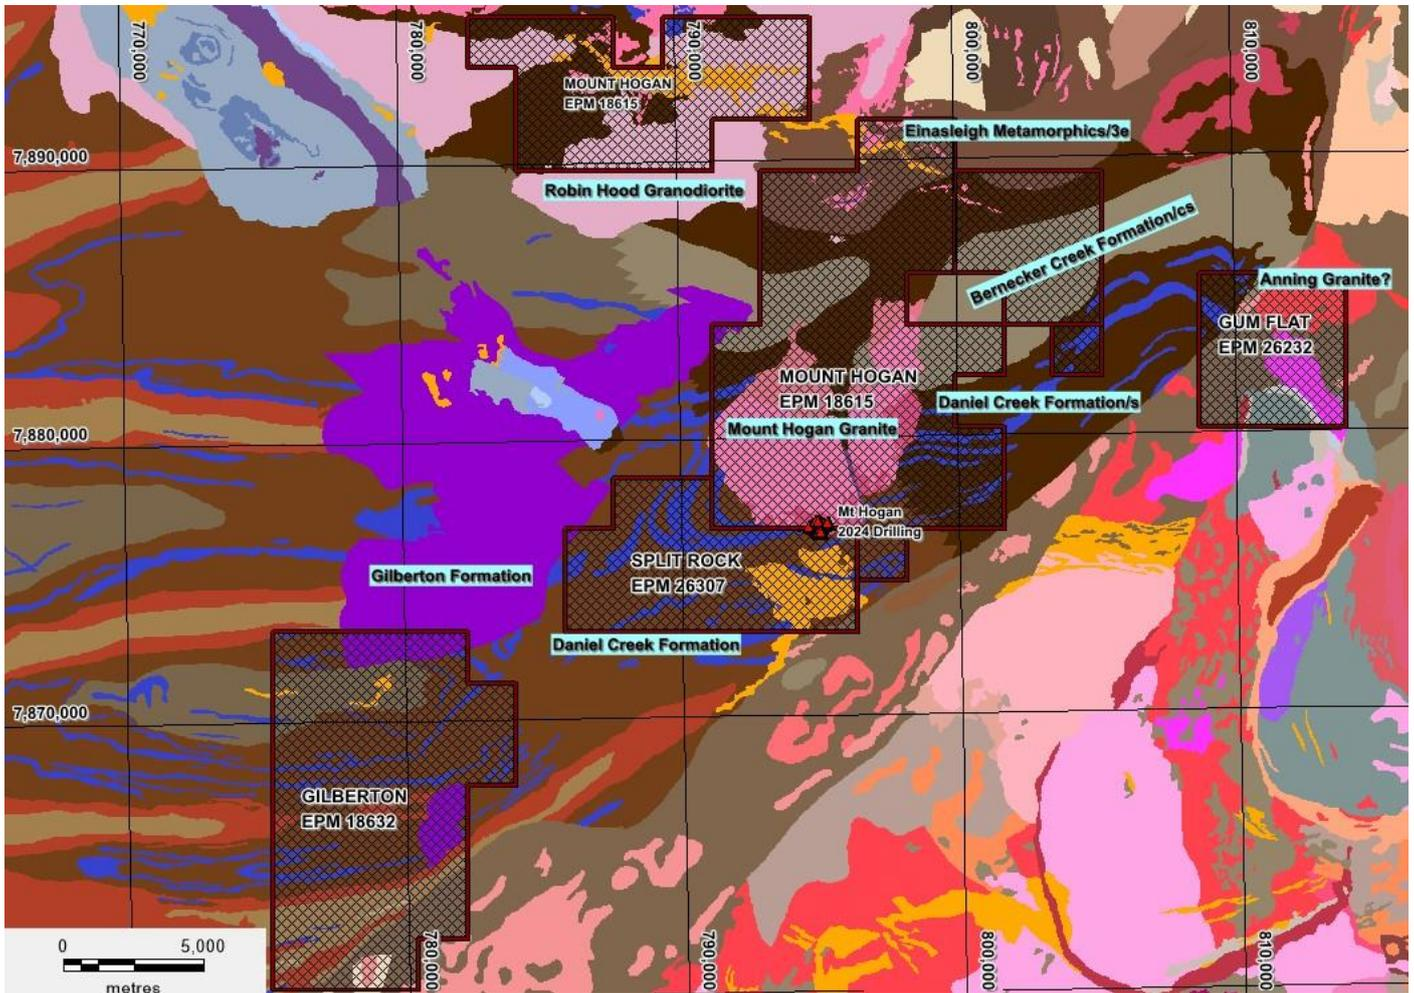

Figure 1 ActivEX Limited Gilberton Gold Project.
ActivEX Limited (ASX: AIV) (ActivEX or the Company) provides the following summary of high-grade drilling results at the Mt Hogan historic gold mine, part of its Gilberton gold project (Figure1).
- The Company successfully completed a 2,416m RC drilling program at the historic Mt Hogan Gold Mine, marking a significant milestone in its exploration journey (Figures 1 & 2).
The Gilberton Gold Project is situated in the Georgetown Province in northeast Queensland, approximately 300km west-northwest of Townsville (Figure 1). The Project consists of EPMs 18615, 18623, 26232 and 26307, which comprise a total of 143 sub-blocks and encompass an area of 370km².
The Mt Hogan gold deposit is the largest historical gold producer in the Gilberton district at 74,930oz. The deposit is located 18 km northeast of Gilberton Homestead and is hosted in the Devonian age Mt Hogan Granite (Figure 1). The granite pluton is an irregular horseshoe shape in outcrop, 7kms in diameter and has intruded Proterozoic metasediments and mafic intrusives of the Robertson River Subgroup. The granite is composed of green grey (sericite chlorite altered) to pink (fresh), medium to coarse-grained, equigranular, sparsely porphyritic and biotite adamellite. Northern outcrops of the granite appear to comprise less fractionated (more mafic) phases within the intrusion compared to the southern margin of the intrusion. Permo-Carboniferous rhyolite and andesite dykes have been mapped immediately north of the Mt Hogan gold deposit. Drilling at Mt Hogan suggests the southern contact between granite and the surrounding metasediment is near vertical.